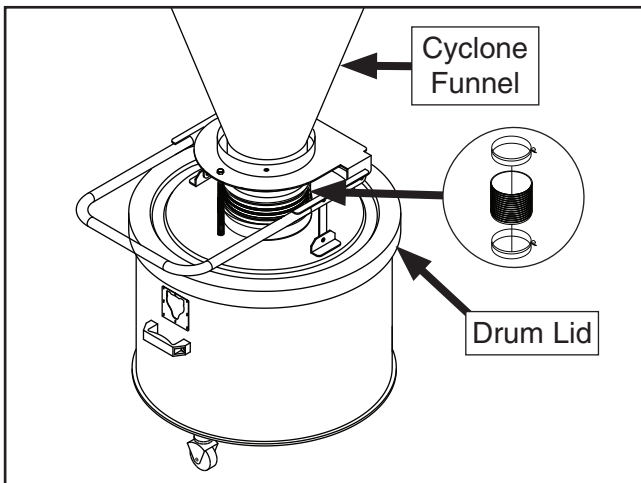

Figure 26. Cyclone funnel connected to drum lid with flexible hose (stand removed for clarity).
28. Connect bottom of cyclone funnel to collection drum lid with clear flexible hose and (2) 9" hose clamps (see **Figure 26**).